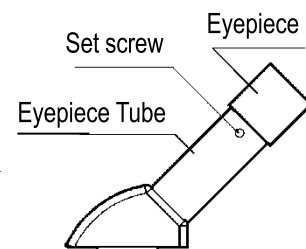

Fig.5
3.4 Insert eyepiece into eyepiece tubes separately, then fix eyepieces by set screws. (Fig.5)